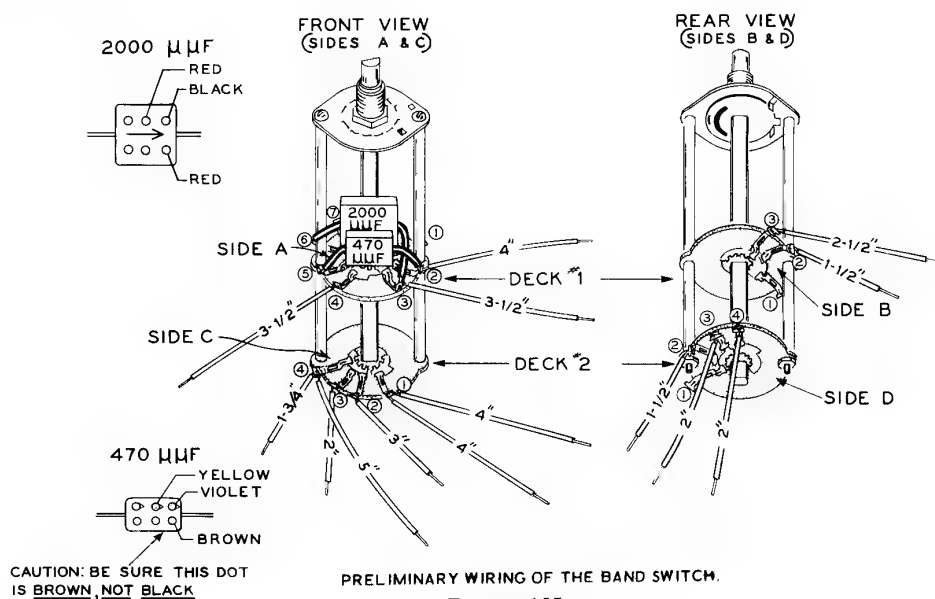

Figure 10L
Refer to Figure 10L for the following steps.
- (✓) (P) Using sleeving on both leads, connect a 2000 μ mf mica capacitor from lug 3 (NS) to lug 6 (S) on side A of the band switch.
- (✓) (P) Using sleeving on both leads, connect a .00047 μ fd (470 μ mf) mica capacitor from lug 2 (NS) to lug 5 (S) on side A of the band switch. This capacitor may have the color dots to identify it, or it may have .00047 (or just 470) printed on it. See the detail drawing in Figure 10L.
- (✓) (P) Connect a 3-1/2" length of hookup wire to lug 3 of side A of the band switch (S).
- (✓) (P) Connect a 4" length of hookup wire to lug 2 of side A of the band switch (S).
- (✓) (P) Connect a 3-1/2" length of hookup wire to lug 4 of side A of the band switch (S).
- (✓) (P) Connect two 4" lengths of hookup wire to lug 1 of side C of the band switch (S).
- (✓) (P) Connect a 3" length of hookup wire to lug 2 of side C of the band switch (S).
- (✓) (P) Connect a 3-1/2" length of hookup wire to lug 3 of side C of the band switch (S).
- (✓) (P) Connect a 1-3/4" length of hookup wire to lug 4 of side C of the band switch (NS).
- (✓) (P) Connect a 4-1/4" length of hookup wire to lug 4 of side C of the band switch (S).
- (✓) (P) Connect a 1-1/2" length of hookup wire to lug 2 of side B of the band switch (S).
- (✓) (P) Connect a 2-1/2" length of hookup wire to lug 3 of side B of the band switch (S).